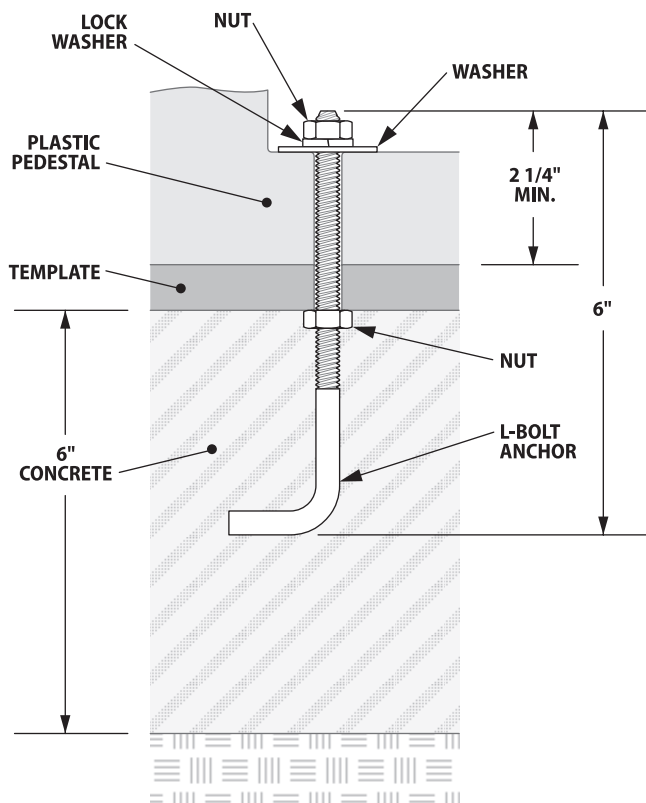

Figure 1
1. Screw four of the 5/16" stainless steel nuts onto the L-bolts (see Figure 1).